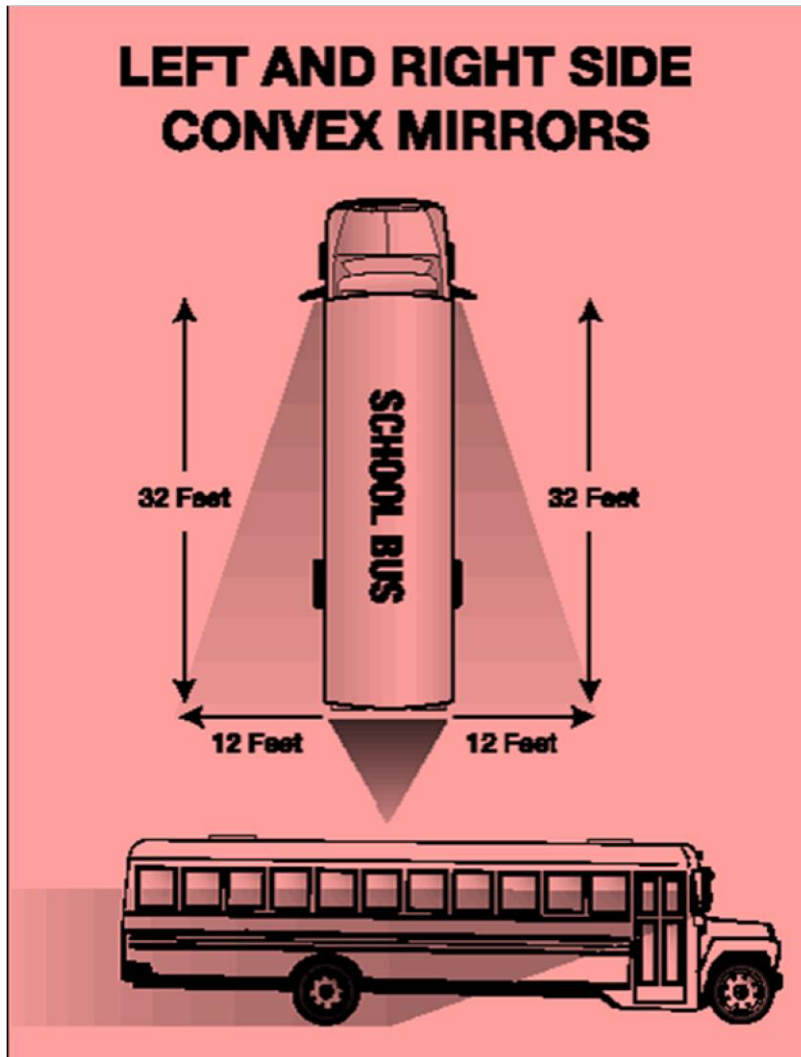

Figure 10.3
- Figure 10.3 shows how both the outside left and right-side convex mirrors should be adjusted.